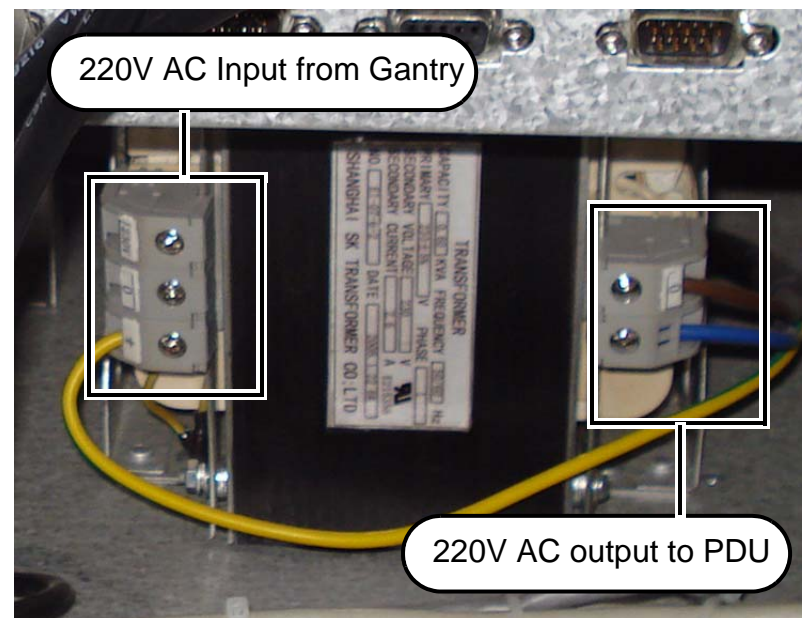

Figure 35: Isolation Transformer
4. Label the power cable, and then disconnect the 220V Power output to the PDU from the Isolation Transformer as shown in Figure 35 on page 44.